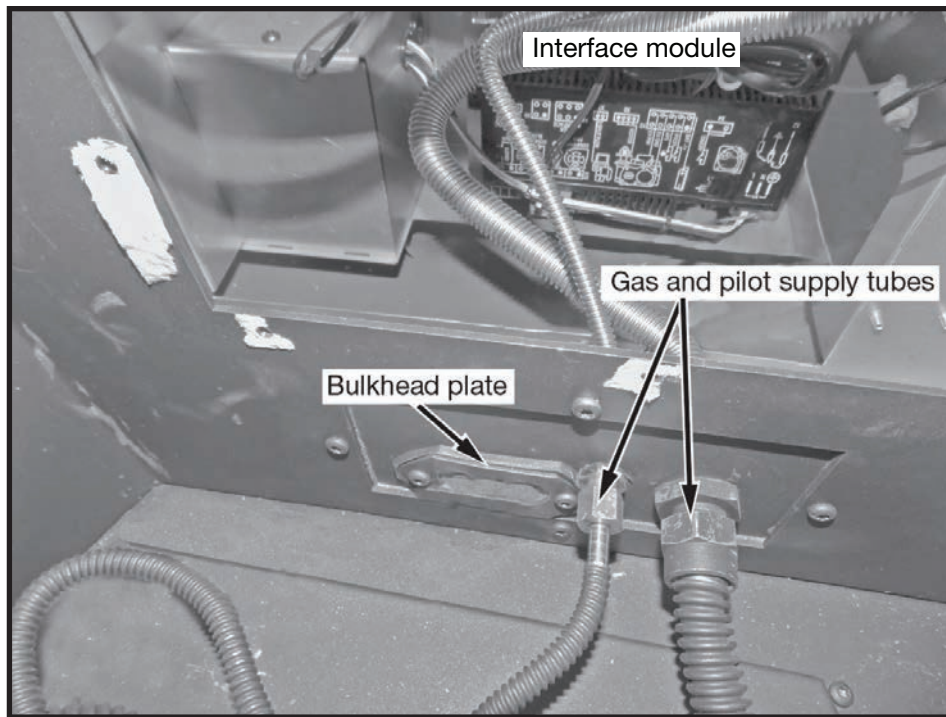

Figure 6: Gas and pilot supply tubes.
4. Attach the pilot and gas supply tubes to the bulk head fitting and tighten (Figure 6). Ensure the connections are gas tight.